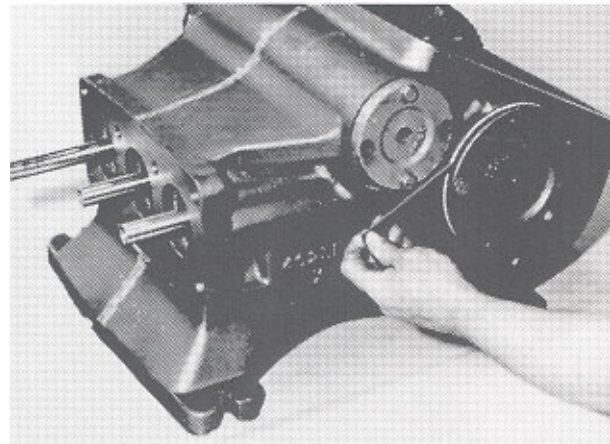

Fig. 13
- B. Install the left cap without shims, secure with two cap screws positioned exactly as shown in "Fig.13". Torque the two cap screws at 13 foot pounds, rotate the crankshaft, retorque the cap screws. Do this three times to properly seat the tapered roller bearings.